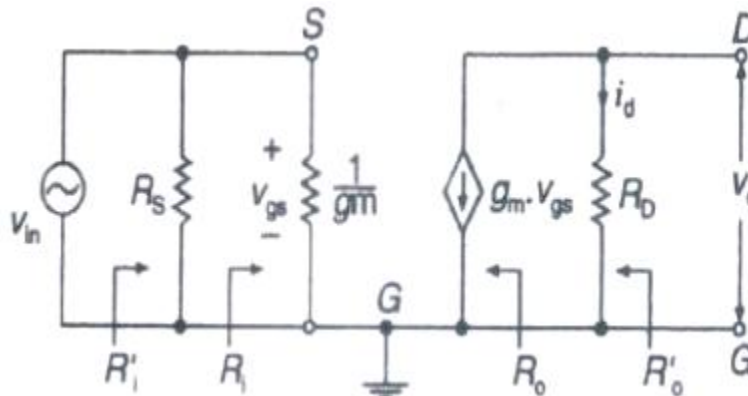

Fig. 5.9 Equivalent circuit of Common gate amplifier
- Figure 5.9 shows an a.c. equivalent circuit of a common gate amplifier.